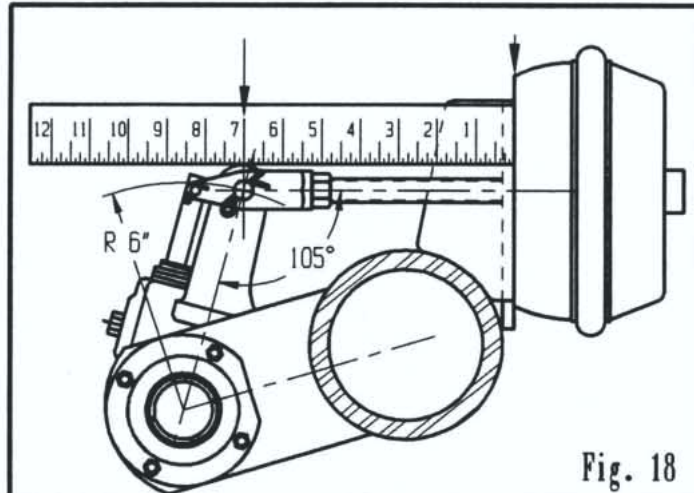

Fig. 18
1. Measure the distance from the bottom of the air chamber to the center of the clevis pin on all wheels. See Fig 18.